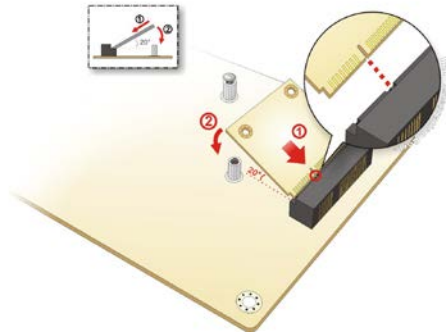

Figure 4-7: Inserting the Half-size PCIe Mini Card into the Slot at an Angle
Step 3: Insert into the socket at an angle. Line up the notch on the card with the notch on the slot. Slide the PCIe Mini card into the socket at an angle of about 20° (**Figure 4-7**).